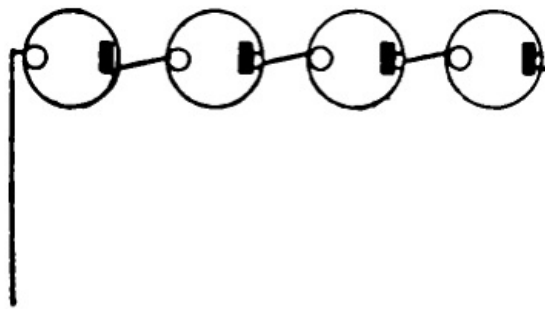
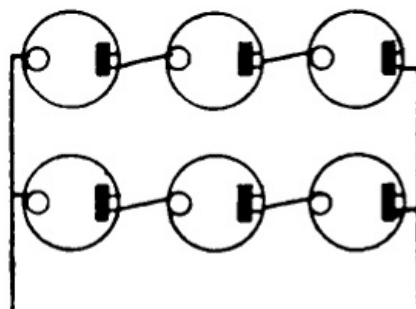

FIGURE 184.
FIGURE 185.
*Batteries.*—Both primary and secondary, or storage, batteries are extensively used upon the stage. Small dry cells are often used to ring bells or light miniature lamps in the hair or clothes of the chorus. The electromotive force of a cell is independent of the size and depends only upon the materials used; but the current which a battery can deliver varies directly with its size. If we wish to increase the voltage we must connect several cells in series, as indicated in Figure 184; if we have sufficient voltage but lack current we must connect, as in Figure 185. As a general rule, in any circuit, we must connect the battery so that its resistances shall most nearly equal the resistance of the device which it feeds. This means that if the resistance of the device is greater than that of the battery we must connect our battery in series; if it is less we must connect the cells in multiple, as indicated by Figure 185.